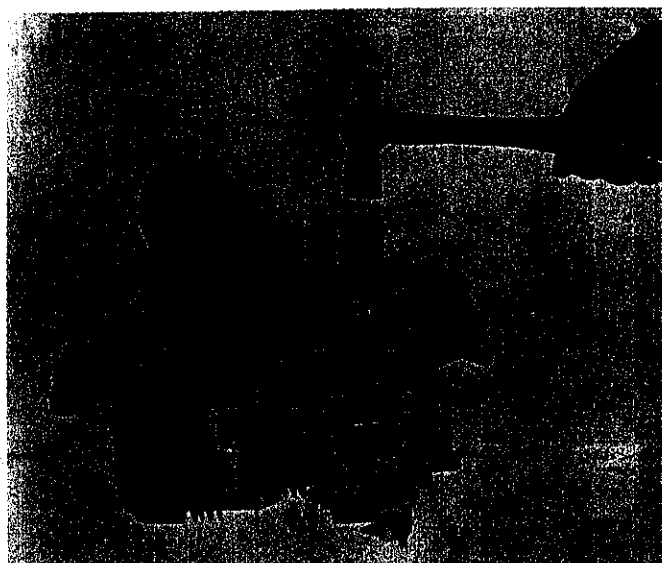

FIGURE 3. REMOVING FLYWHEEL
3. Remove flywheel as shown in Fig. 3 by installing the knock-off nut to within a few turns of the flywheel. For standard rotation engines, use 18091 knock-off nut. For reverse rotation engines use T-2923.